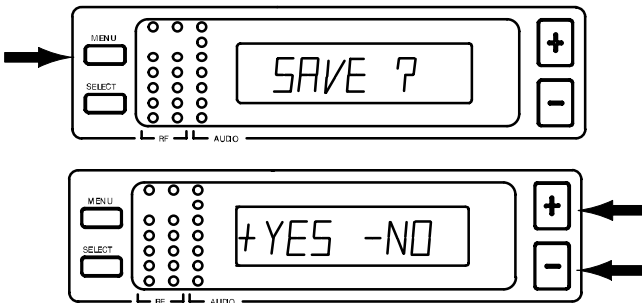
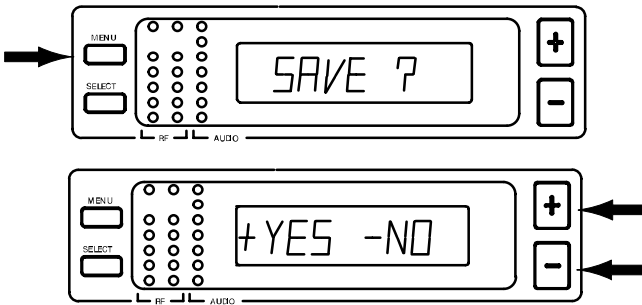

FIGURE 15
FIGURE 20
- When the new Group/Channel has been completely entered, press the MENU button. “SAVE?” appears on the display, followed by “+ YES – NO”. Press the “+” button to save the new Group/Channel setting or press the “-” button to return to the original setting. See Figure 15.
- Press the MENU button to enter the desired frequency, as shown in Figure 15. SAVE? appears on the display, followed by "+ YES - NO". Press the "+" button to save the new frequency, or press the "-" button to return to the original setting. See Figure 20.